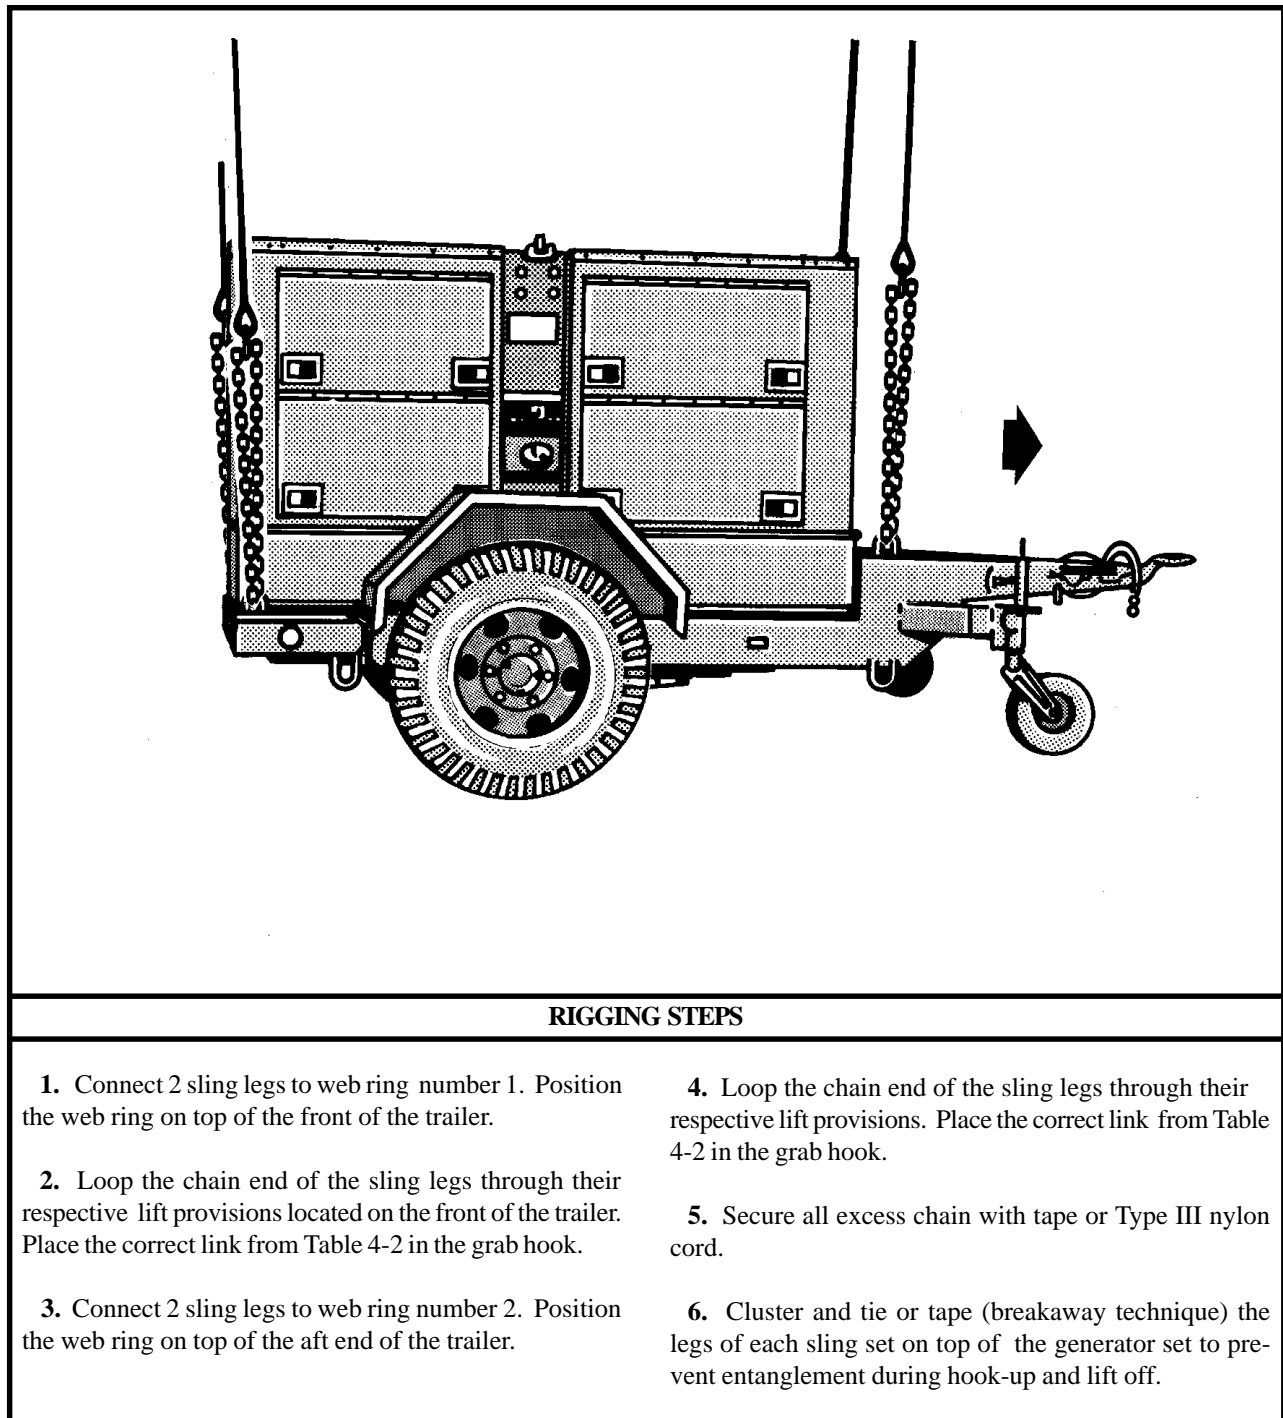

Figure 4-2. M353 Trailer Chassis With Mounted Generators
(2) **Rigging.** Rig the load according to the steps in Figure 4-2.
(4) **Derigging.** Derigging is the reverse of the preparation and rigging procedures in steps d (1) and d (2).